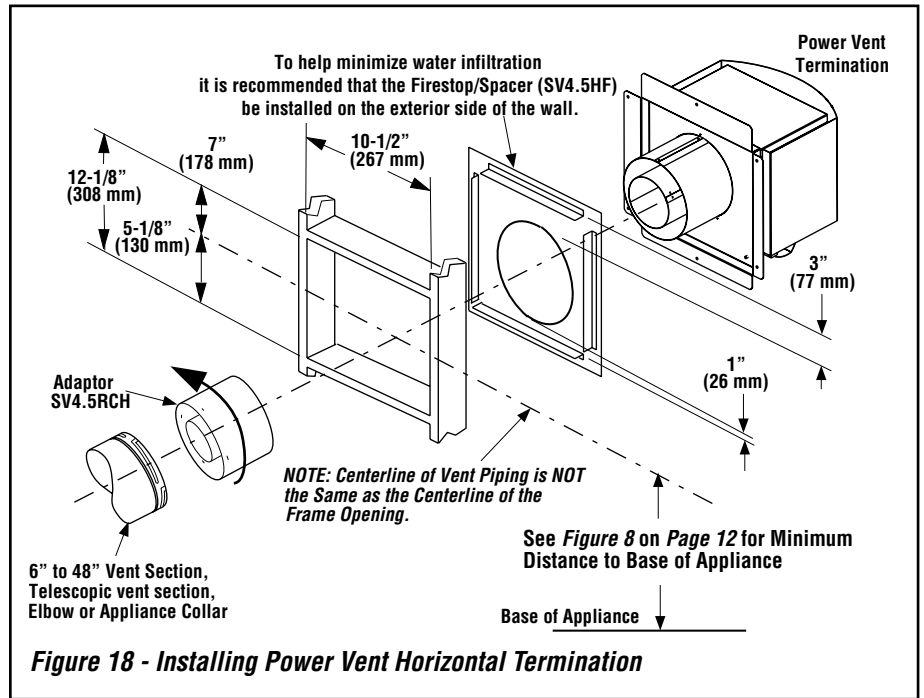

Figure 18 - Installing Power Vent Horizontal Termination
J. Assemble vent run to exterior wall - If not previously measured, locate the center of the vent on the exterior wall. Prepare an opening as described in this manual. Assemble the vent system to a point where the terminus of the last section is within 8" of the outside wall surface where the power vent is to be mounted (see **Figure 18 on Page 19**).
K. Attach termination adaptor - Attach the adaptor (SV4.5RCH - provided with the power vent kit) to the vent section telescoping vent section, or elbow, as shown in **Figures 18 and 19 on Page 17** in the same manner as any SV4.5 vent component.
Install SV4.5HF Firestop/Spacer, provided with the power vent kit, over the opening at the exterior side of the framing, long side up, with the 3" spacer clearance at the top as shown in **Figure 18**, and nail into place. The Firestop/Spacer may also be installed over the opening at the interior side of the framing. The gap between the vent pipe and a firestop can be sealed with noncombustible caulking.